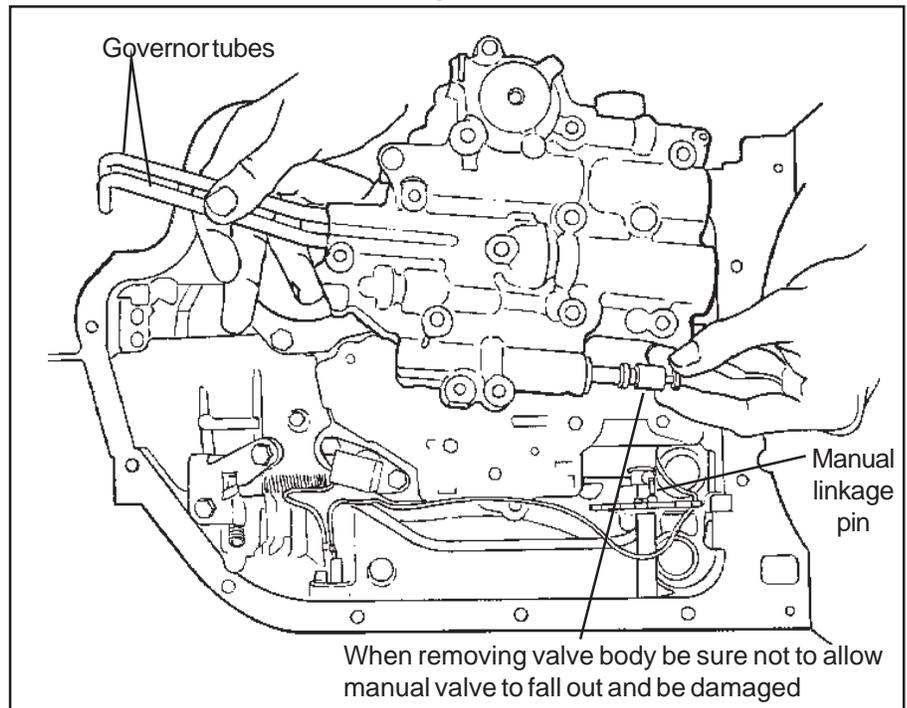
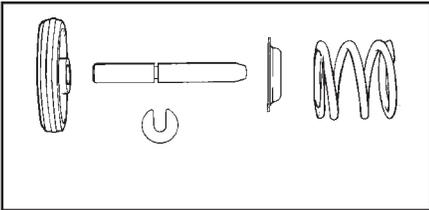

Figure 5
Figure 6
disconnect the spark control switch wire if present. Hold the valve body in place and remove the last bolt. Lower the valve body while at the same time pulling straight down on the governor tubes (See Fig. 5). Place the valve body in the oil pan to avoid contamination. **NOTE:** The front servo may fall out of the case, if it does see Figure 6 for reassembly order. Use grease or petroleum jelly to hold the servo compo-
STEP 12. Insert the governor tubes into the valve body (**See Fig. 5**). Lay the lower valve body gasket (has "VB" punched in it) into position on valve body (use grease or petroleum jelly to hold it in place). Make sure the manual valve is in its bore. Install valve body onto transmission guiding the governor tubes into their holes at the rear of case. Push up on valve body and tubes and engage the manual valve on the internal shift linkage pin. Install one bolt to hold valve body in place.